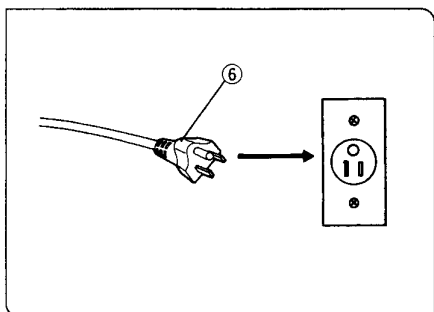

Fig. 6
4. Plug the power cord plug ⑥ into a wall outlet. (Fig. 6)